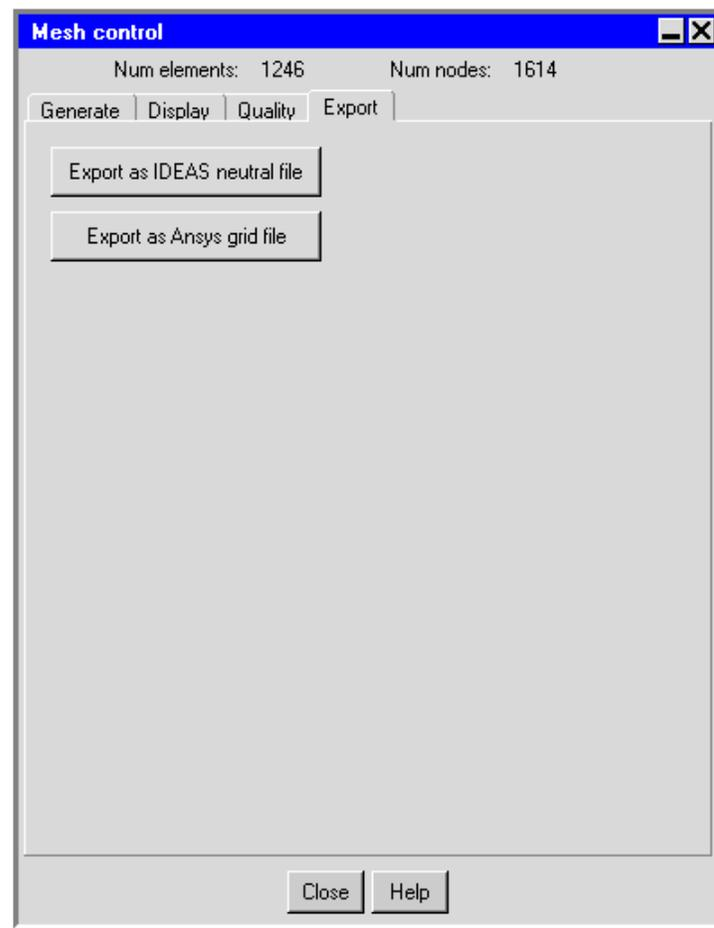

Figure 26.11.1: The Export Tab in the Mesh control Panel
2. Click on the Export tab to show the export options, as shown in Figure 26.11.1.